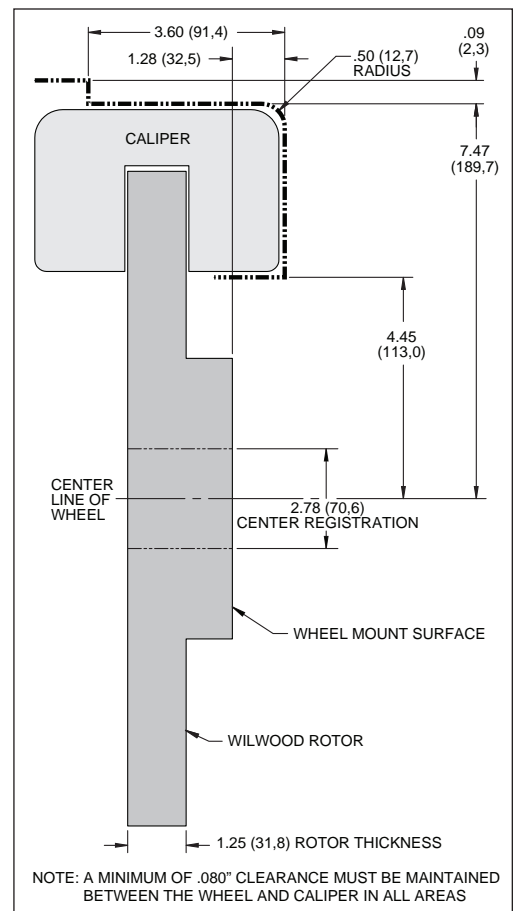

Figure 2. Wheel Clearance Diagram
- Review the wheel clearance diagram (figure 2, page 3) to verify that there is adequate clearance with the wheels you will be using with the installation.
- Make sure this is the correct kit to fit the exact make and model year of your axle. This kit is designed for direct bolt-on installation to 2005 through 2013 model year Chevrolet C6 Corvette hubs. Speciality aftermarket wheels or spacer may be required. Check wheel clearance diagram, Figure 2.
- Verify your wheel clearance using Figure 2.